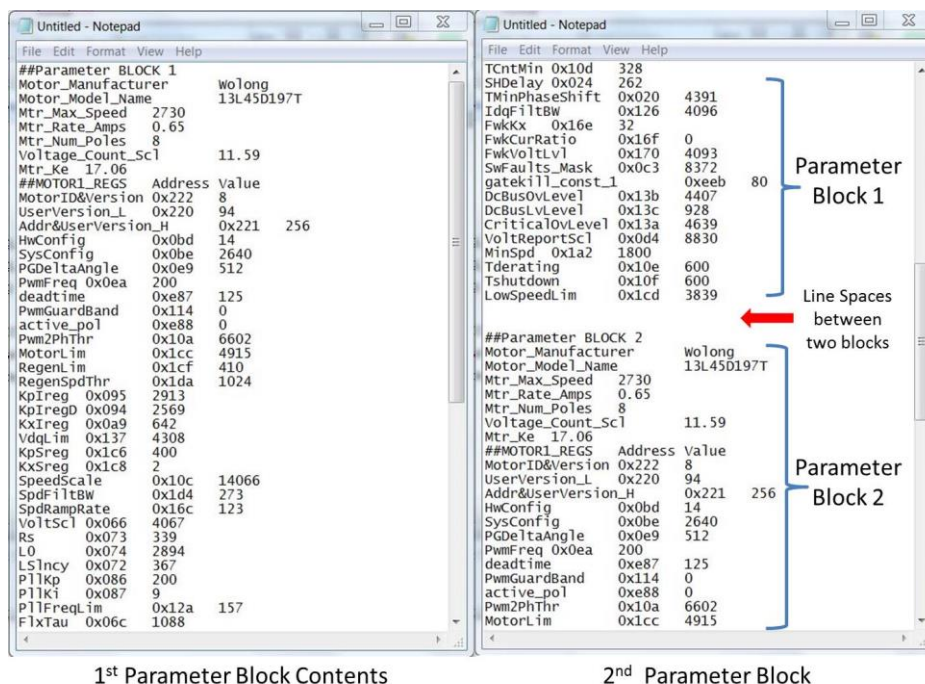

Figure 8 Creating Parameter Block File
3. Similarly, generate the parameter file for the 2nd motor and paste its contents on a new line below the 1st parameter block in 'untitled.txt'. Ensure to have more than one line spaces between the two parameter blocks as shown in Figure 8.